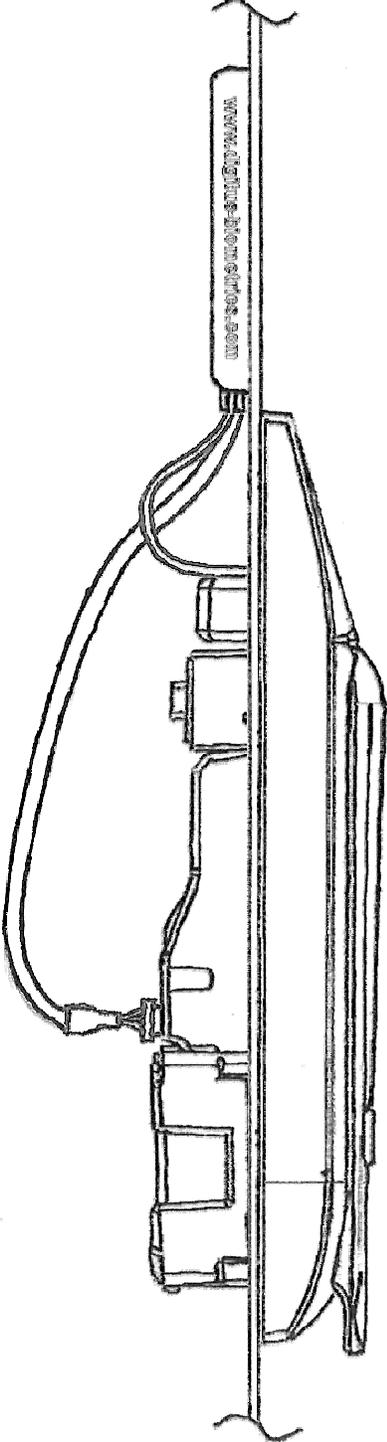

Figure 8
- Figure 8 shows how the complete assembly should look after installation.